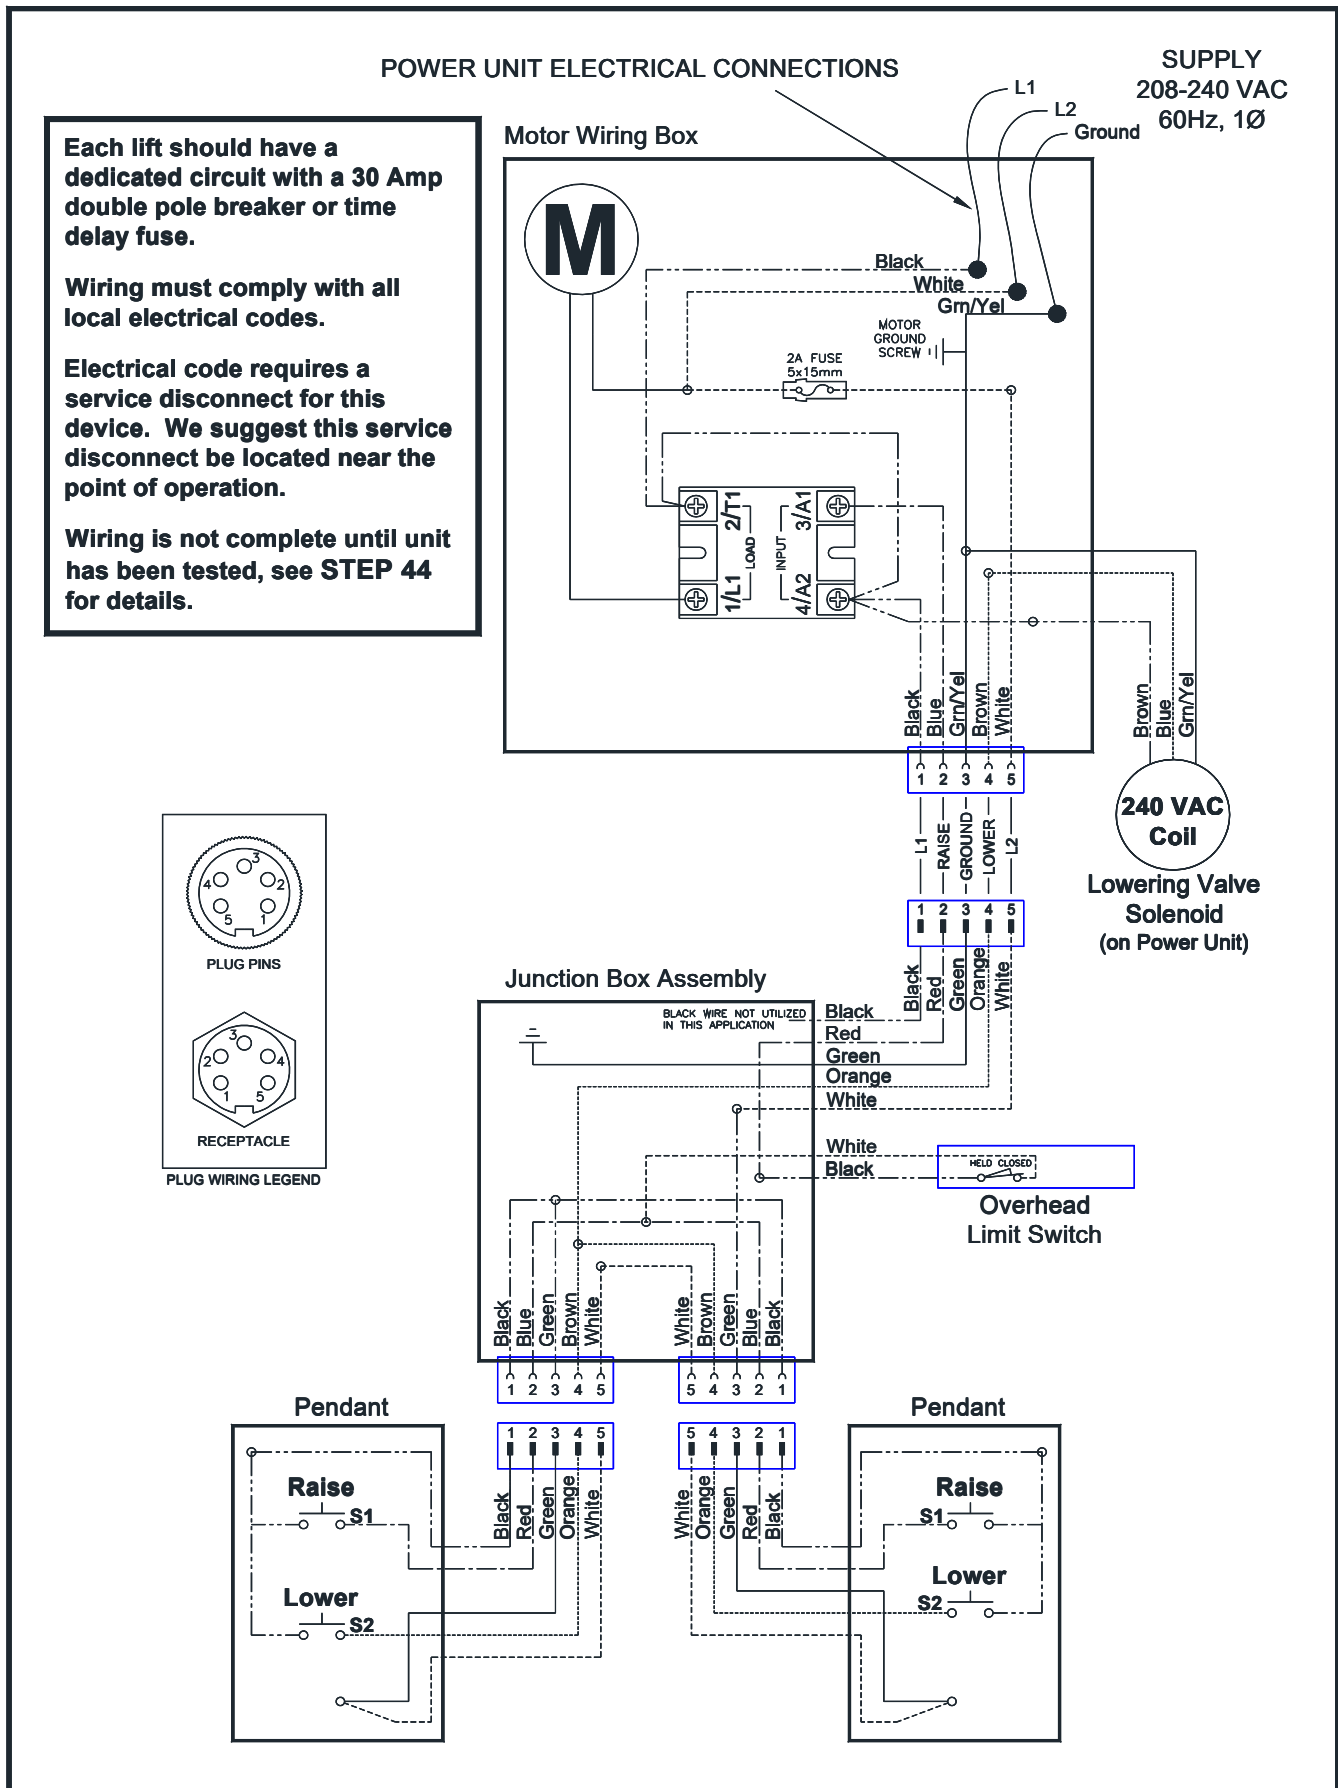

Fig. 20 – Electrical Wiring Diagram
POWER UNIT WIRING (SEE FIG. 20, PAGE 14)
- 53) Connect power unit to suitable electrical source as shown in **Fig. 20**.
ELECTRICAL TESTING (SEE FIG. 20, PAGE 14)